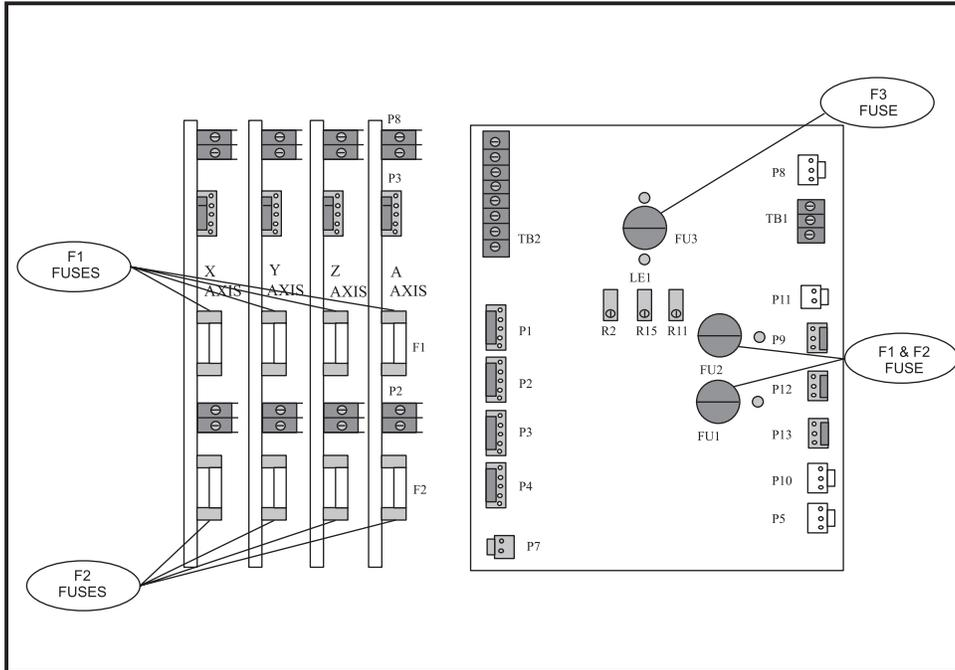

Figure 4.3-3 Servo Drive Assembly; fuse locations
- On the SERVO DRIVE ASSEMBLY, there are three individual fuses on each of the SERVO DRIVE boards (See Fig. 4.3-3; the F3 fuses are not shown).